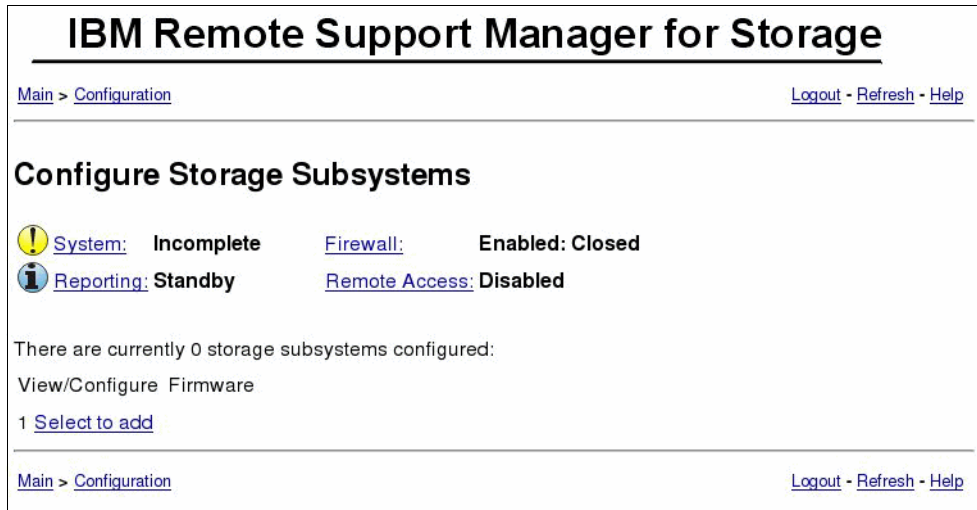

Figure 15-12 RSM Configure Storage Subsystems
- 13.Click **Select to add** to define a storage subsystem in RSM (see Figure 15-12 on page 369).